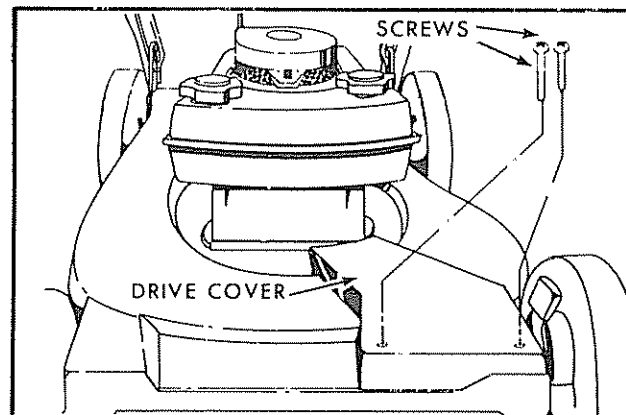

FIG. 16
around the gear case clear of trash by removing drive cover and cleaning (See Fig. 16 and 17).
1. To adjust, remove the drive cover by removing two (2) screws. Keep for re-use (See Fig. 16).
- a. Remove the drive cover by removing the two (2) screws (See Fig. 16). Keep for re-use.